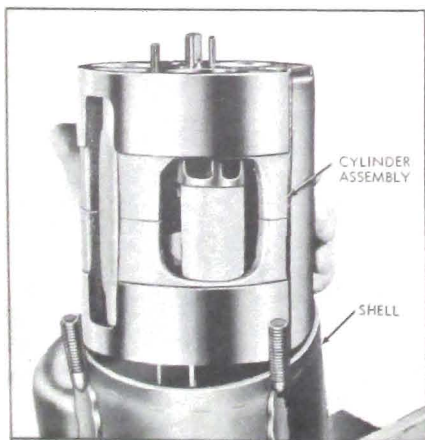

Figure 11-117—Removing Cylinder Assembly
2. Push on front of compressor shaft to remove cylinder assembly from shell. See Figure 11-117. The cylinder assembly will slide out of shell when shell is inverted.